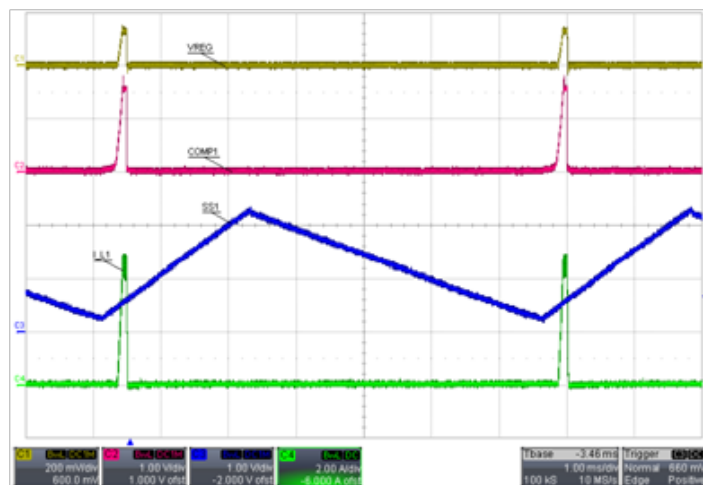

Figure 2: Pre-Regulator Hiccup Mode Operation when VREG is Shorted to GND and $C_{SS1} = 22\text{ nF}$
6. Hiccup mode short-circuit protection (refer to Figure 2)